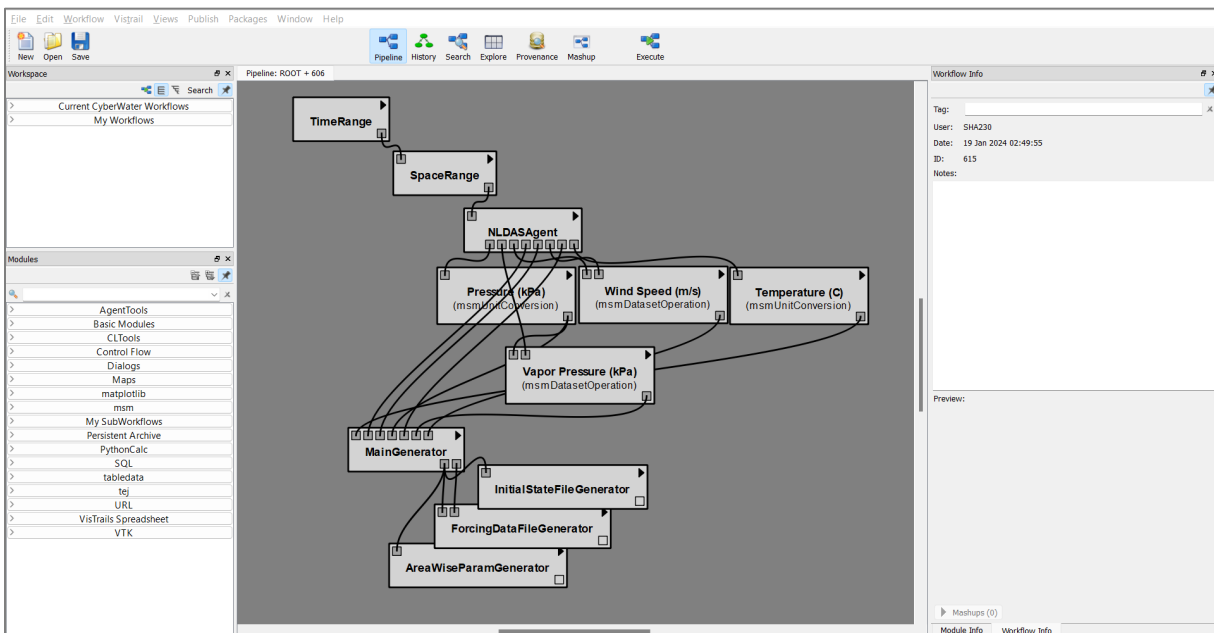

Figure 76. Workflow with complete data preparation for HPC module.
- After these changes, the workflow should look like the image shown in Figure 76.